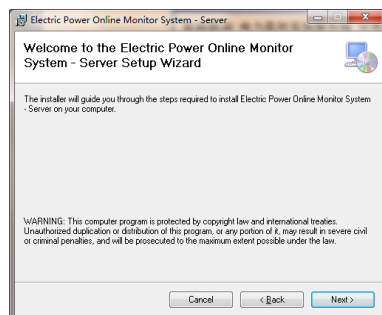

Fig. 3.2
2). Default language is English, click "Next" shows as Fig.3.2